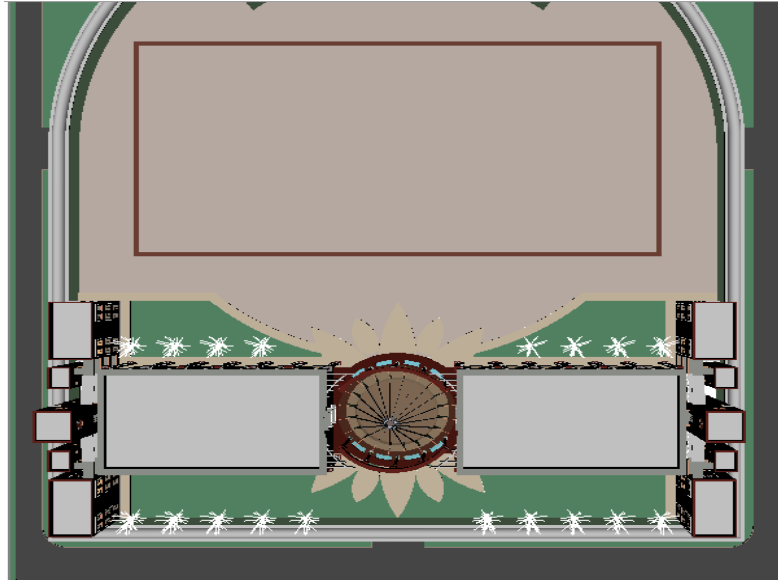

Figure 3-36 Model opened in Navisworks
5. Choose the **Open** button from the dialog box; the model is displayed in the Scene View, as shown in Figure 3-36.
5. Choose the **Open** button from the dialog box; the model is displayed in the Scene View, refer to Figure 3-36 (same as Tutorial 1).